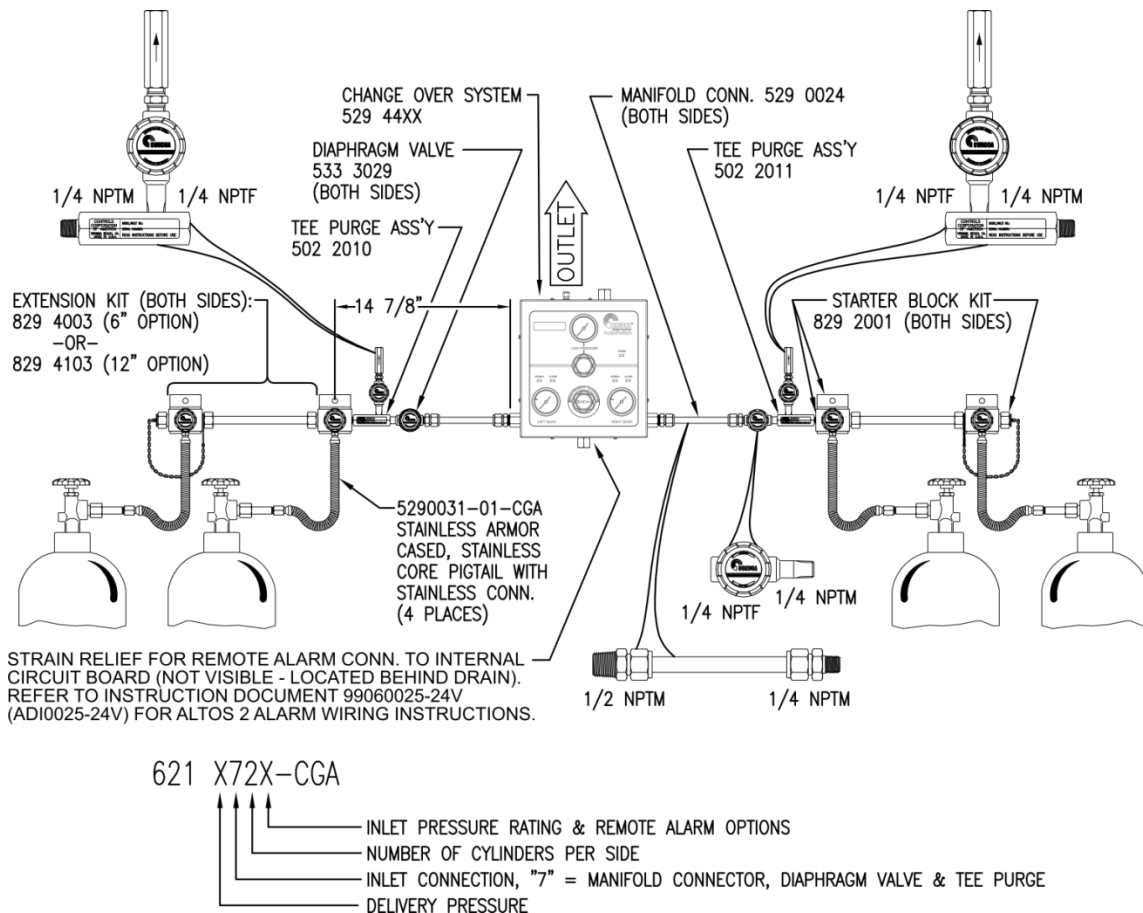

Figure 9 – Tee Purge & Diaphragm Valve with Manifold Connector for Maniflex Header Shown with Two Cylinders per Side
System 621 X72X-CGA (typical manifold setup with the manifold connector) – see Figure 9 for locations of components:
2. After taping the male NPT connections, thread the 1/2 NPT of the manifold connector into the bulkhead connector of the AutoSwitch as shown in Figure 9. Wrench-tighten.
4. Thread the 1/4 NPT connection of the tube fitting just removed into the diaphragm valve as shown in Figure 9. Wrench-tighten.
5. Thread the 1/4 NPT connection of the diaphragm valve assembly into the tee purge as shown in Figure 9. Wrench-tighten.
6. Thread the 1/4 NPT connection of the tee-purge assembly into the starter block of the manifold as shown in Figure 9. Wrench-tighten.
7. Insert the tube fitting of the starter block assembly into the pre-swaged tubing of the manifold connector as shown in Figure 9. While holding the hex of the tube-fitting nut and body hex, rotate the wrench until a significant increase in torque is felt; after the increase is felt, tighten slightly.